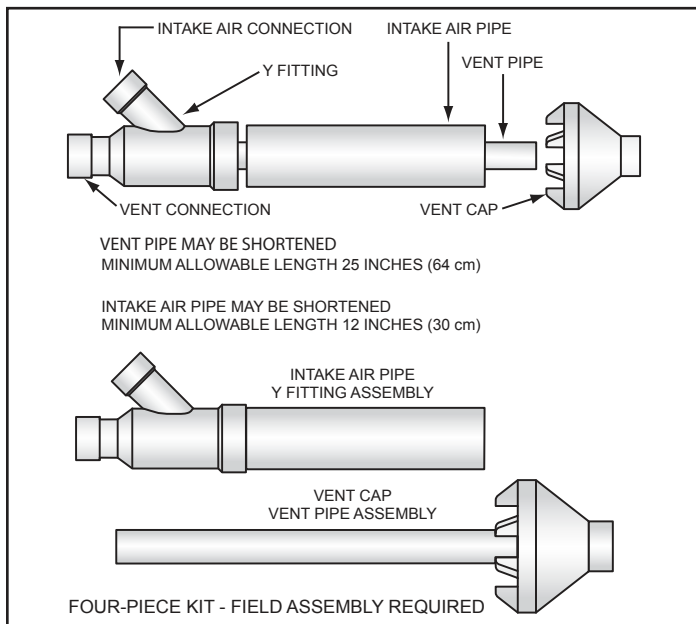
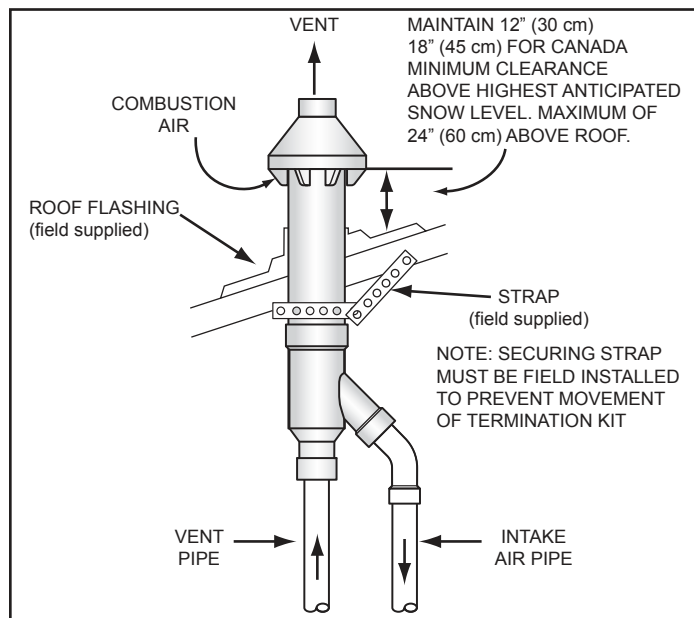
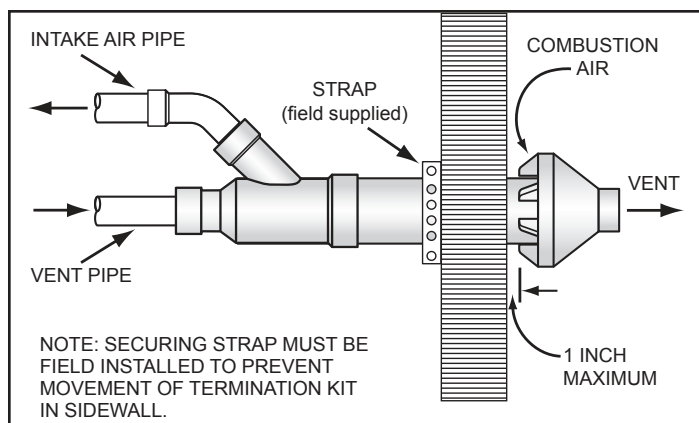

Figure 28. Concentric Termination Kit
Figure 29. Concentric Termination Clearances - Vertical Installation
Figure 30. Concentric Termination Clearances - Side-Wall Installation
- When installing a concentric termination vertically through the roof, ensure that all exterior vertical clearance requirements for the concentric termination, shown in *Figure 29* (page 30) are being maintained. These clearances and those cited by local and national codes must be maintained.
- See **Figure 28** (page 30) for the minimum lengths allowed for the concentric termination.**Note:** When shortening the length of the termination, carefully measure and cut the larger (intake air) pipe first. Cut the same amount of pipe from the smaller (vent) pipe.
Assemble and install the concentric termination. Refer to **Figure 28**, **Figure 29** (page 30) and **Figure 30** for these instructions: